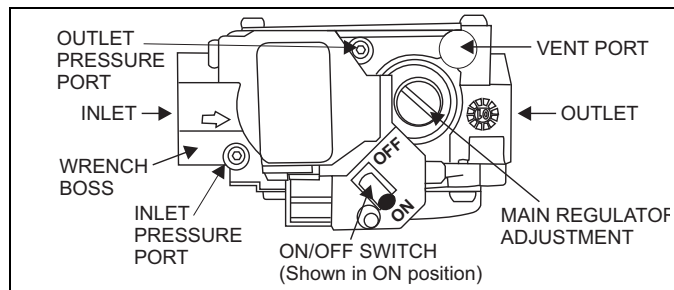

FIGURE 40: Gas Valve
Inlet and manifold gas pressure may be measured by connecting the "U" tube manometer to the gas valve with a piece of tubing. Follow the appropriate section in the instructions below. Refer to Figure 40 for a drawing of the locations of the pressure ports on the gas valve.
1. Refer to Figure 40 for location of pressure regulator adjustment cap and adjustment screws on main gas valve.